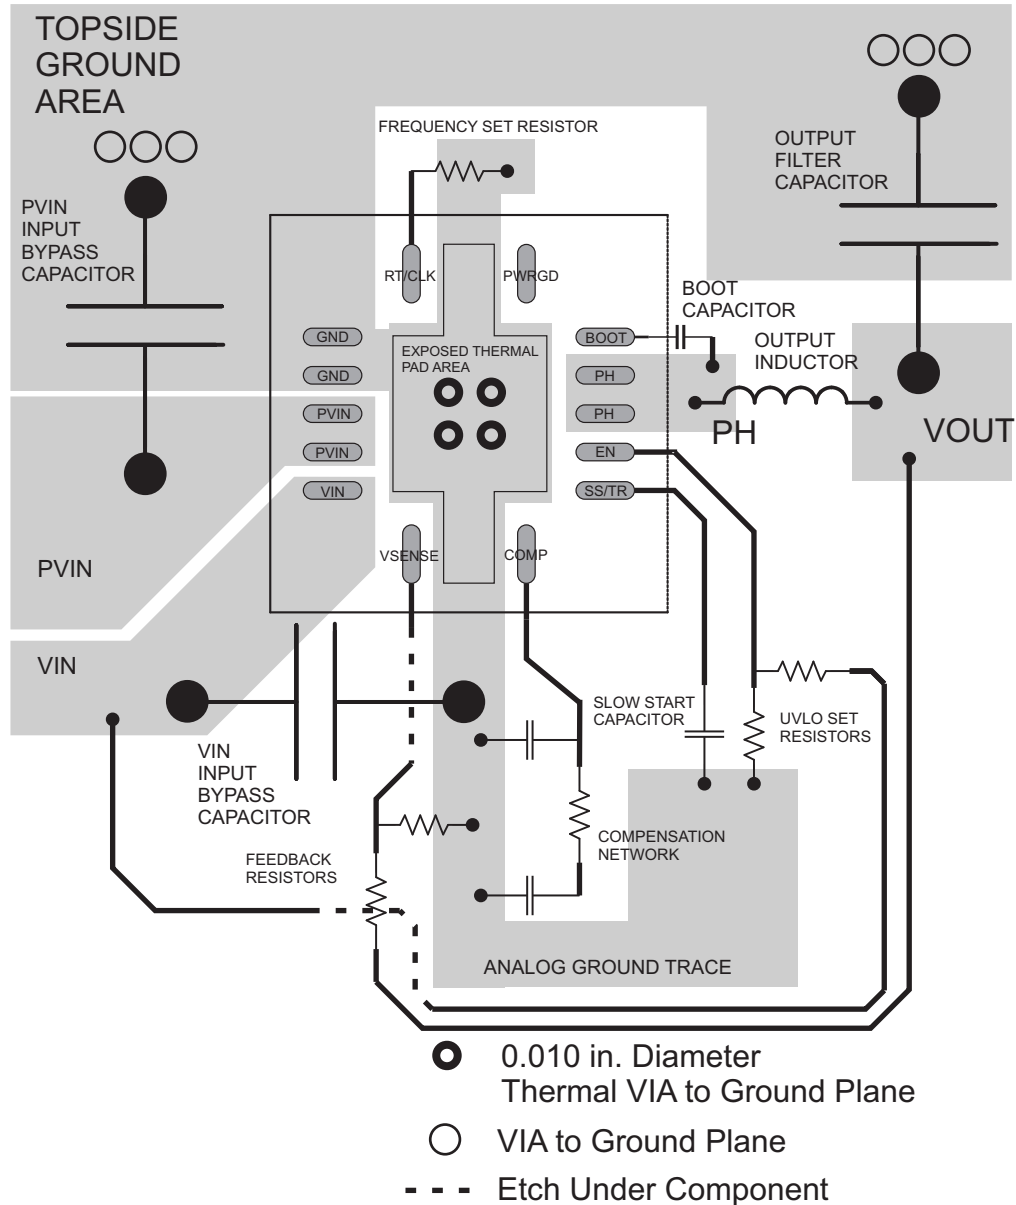

Figure 55. PCB Layout
The TPS54620 is designed to operate from an input voltage supply range between 4.5V and 17V. This supply voltage must be well regulated. Power supplies must be well bypassed for proper electrical performance. This includes a minimum of one 4.7 $\mu$ F (after de-rating) ceramic capacitor, type X5R or better from PVIN to GND, and from VIN to GND. Additional local ceramic bypass capacitance may be required in systems with small input ripple specifications, in addition to bulk capacitance if the TPS54620 device is located more than a few inches away from its input power supply. In systems with an auxiliary power rail available, the power stage input, PVIN, and the analog power input, VIN, may operate from separate input supplies. See Figure 55 (layout recommendation) for recommended bypass capacitor placement.
- Layout is a critical portion of good power supply design. See Figure 55 for a PCB layout example.